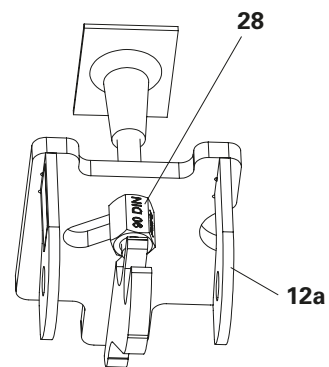

Fig. A5.12c
2. Push Suspension Head VGK Flex (**12a**) into position and tighten Anchor VGK B15 (**28**). (Fig. A5.12c)